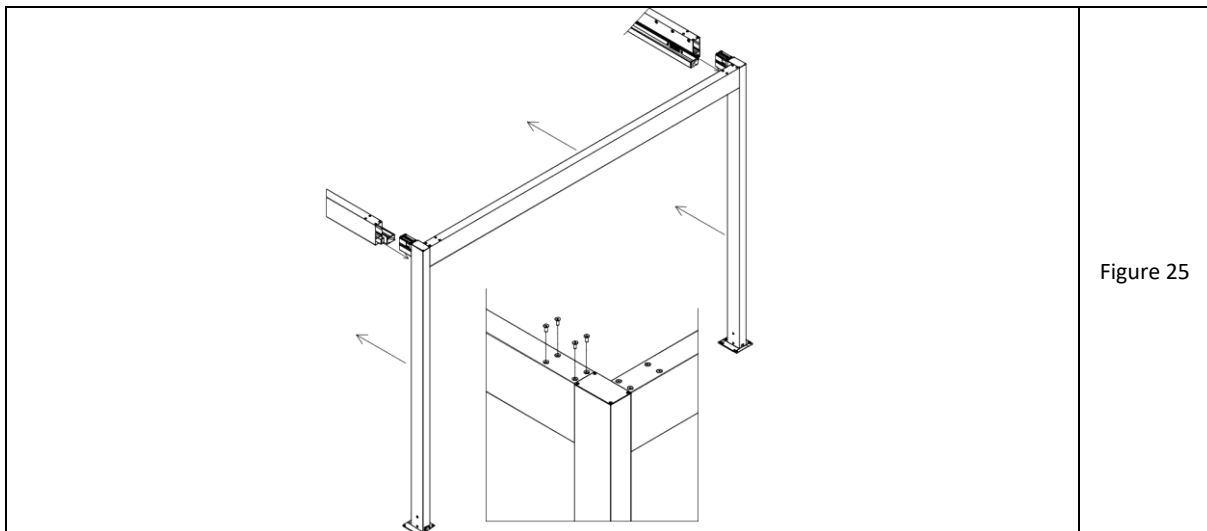

Figure 25
6. Slide the integrated gate with the bones into the chambers at the ends of the supported lengthwise beams (fig. 25). Pay attention to the insertion of the straight outflow pipe from the lengthwise beams into the cut-out window in the post below the bone.
7. Screw the corner nodes from the top (detail in fig. 25) - as in point 3.